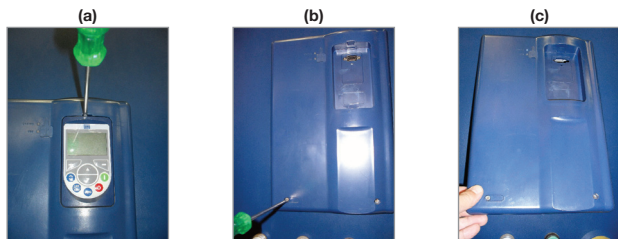

Figure 2: Removal of the front cover
Step 1: With the SSW7000 de-energized, remove the front cover (figure 2);